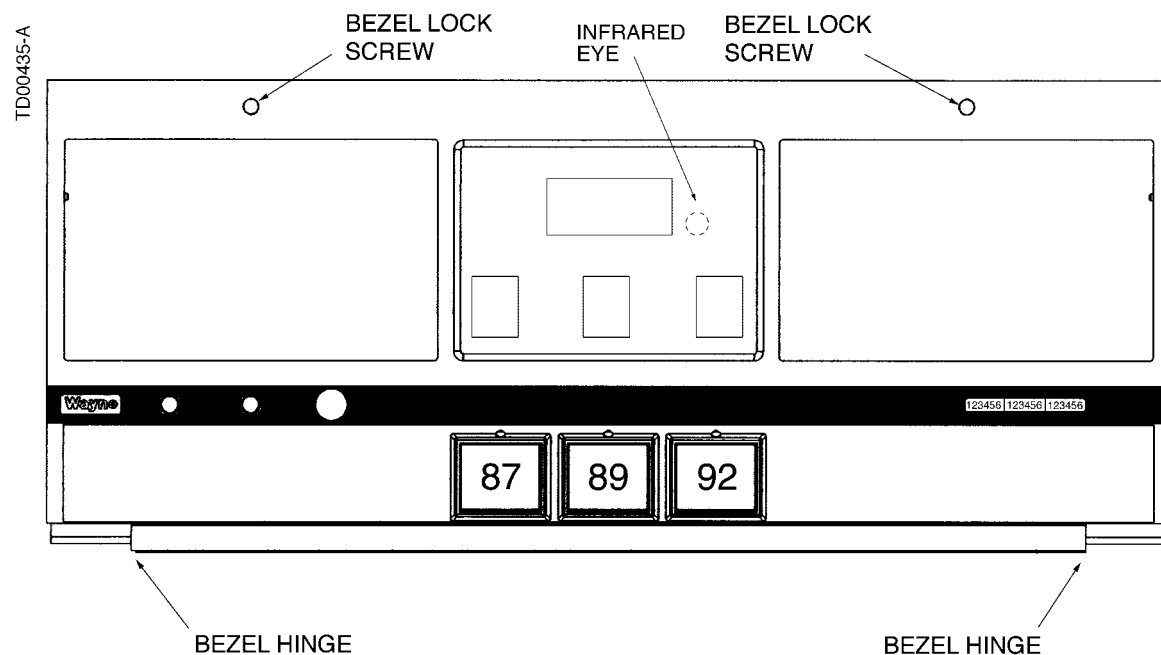

Figure 3-5 Infrared Interface Location. The dispenser infrared eye is located behind the sales display on each side of the dispenser.
The Infrared Remote (IR) Control shown in Figure 3-3 is similar to a television remote control. It has 16 buttons and, when held close to the infrared eye (Figure 3-5) on the display board, is used to access dispenser functions and diagnostics (statistics). The IR remote also, as discussed in the following sections, is used to set unit prices, set fueling point IDs, set blend ratios, and read electronic totalizers.